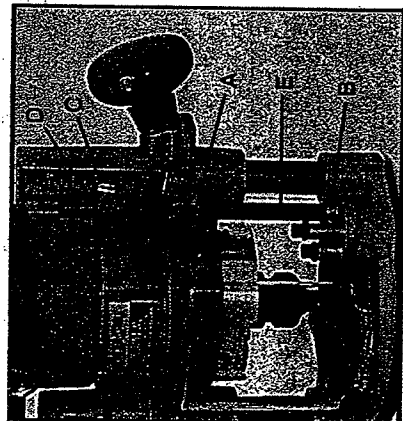

Fig. 10
2. Loosen depth rod locking knob (A) Fig. 10, and depth indicator knob (D) Fig. 10, allowing the depth rod (E) Fig. 10, to contact one of the turret stops (B) Fig. 10.
5. Position depth indicator (C) Fig. 10, at "O" position and tighten knob.